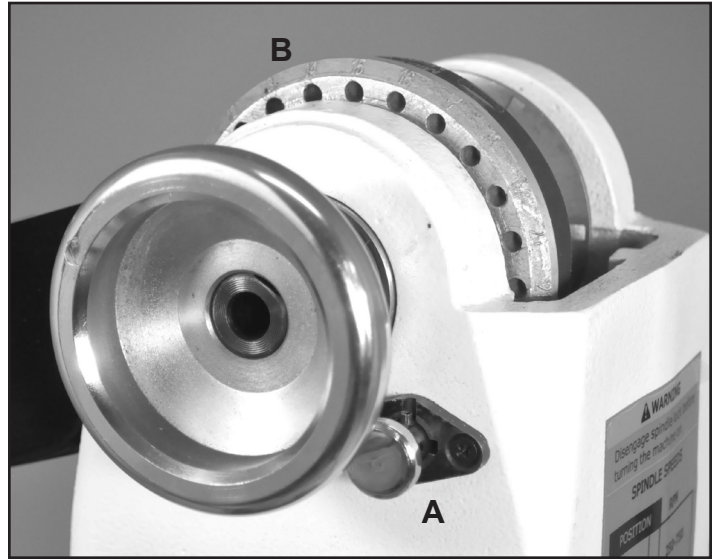

FIG. 1
1. **HEADSTOCK SPINDLE LOCK:** The spring loaded Index Pin Assembly (#44, FIG. 1, A) is primarily used to position the spindle for making accurate, spaced pattern work on projects such as straight fluting, grooving, drilling, detail carving, wood burning patterns and laying out designs. See page 13 for more information.
2. **HEADSTOCK INDEXING HOLES:** (FIG. 1, B) The largest Spindle Pulley (#52, B) has 24 positioning holes located around its left side. Each index hole is 15° apart, and marked for reference around the perimeter of the pulley. Insert the Indexing Pin (A) into one of these holes, and the spindle will be locked so that work can be done on the workpiece. See page 13 for additional information.